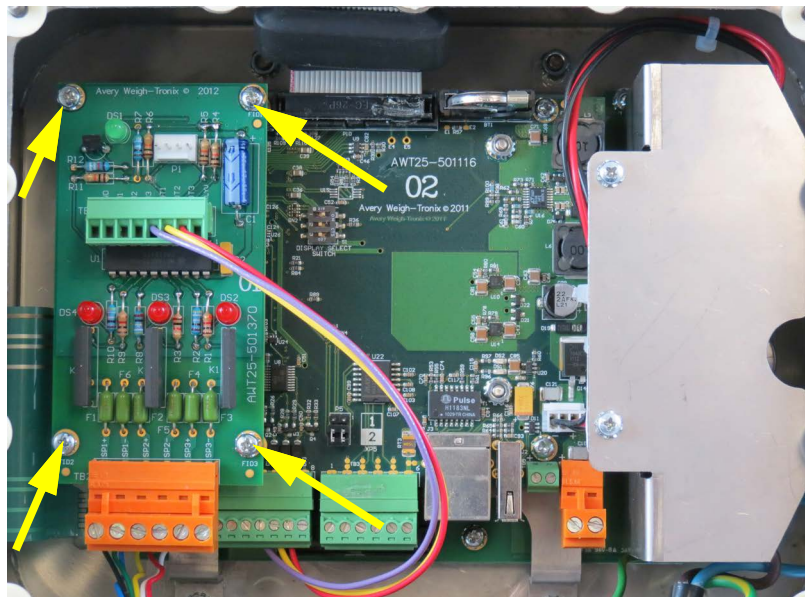

Figure 8.9 AC Relay option card on main board
1. Plug the option card into terminal J4 on the main board. See Figure 8.9. Use the included standoffs and screws to fasten the card to the main board at the four locations noted by the arrows.
These wires are shown in place in Figure 8.9.